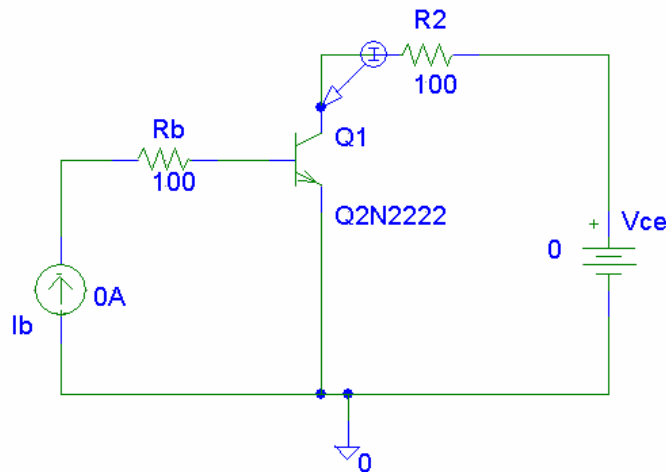

Fig. 5. BJT transistor circuit 3
7. Construct the circuit in Fig. 5 in Pspice. Place a current marker on the collector of the Q2N2222. A second DC Sweep is required to generate the output characteristics. First select DC Sweep and set it up for sweeping V_{CE} from 0V to 6V with linear increments of 5mV. Then select Nested Sweep and set that up for sweeping I_B from 0 μ A to 50 μ A with linear increments of 5 μ A. Make sure to select *Enable Nested Sweep*.
9. Set V_{CE} shown in Fig 5 to 5V and do a linear sweep starting at 0, ending 30 μ A with a linear increment of 5 μ A. Find the DC and AC current gain β_{DC} and β_{ac} of the transistor. Remember, β_{DC} and β_{ac} are defined by (3) and (4) respectively.